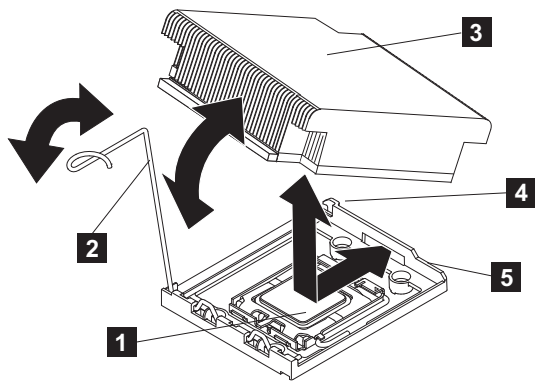

Figure 314. Installing the heat sink on the SAN Volume Controller 2145-CG8 or 2145-CF8 microprocessor
8. Align the heat sink on top of the microprocessor, as shown in Figure 314 on page 375.